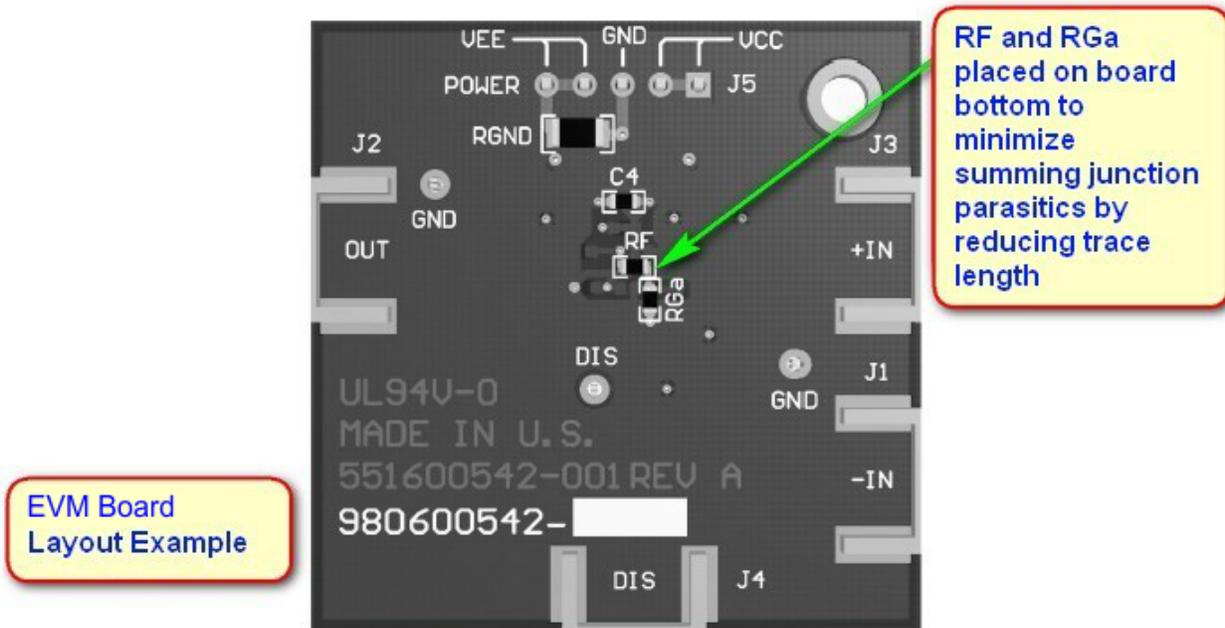

Figure 59. LM8261 Evaluation Board Layer 2
- The input summing junction is very sensitive to parasitic capacitance. Connect any R_f , and R_g elements into the summing junction with minimal trace length to the device pin side of the resistor, as shown in Figure 59. The other side of these elements can have more trace length if needed to the source or to ground.